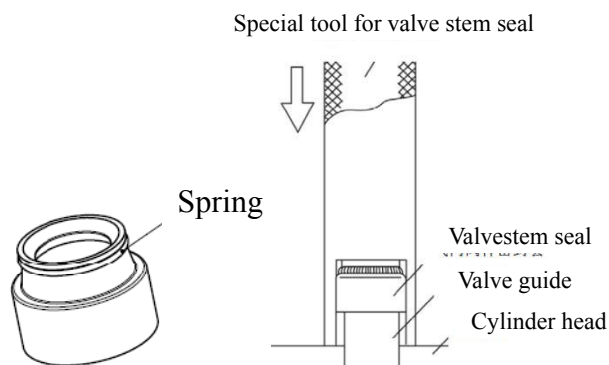

Figure 4-19 Oil Seal
(1) Oil seal of valve and its assembly are as shown in Figure 4-19.
- ①An oil seal of valve is only allowed to be used for once, if returned for repair, it is required to replace for a new one.
- ②Check if there is defect of oil seal of valve, and if the spring of oil seal of valve is intact.
- ③Install oil seal of valve on valve guide pipe.
- ④Apply lubrication on lip of oil seal of valve.
- ⑤Use installing tools for oil seals of valve and rubber hammer to knock in the oil seals of valve.